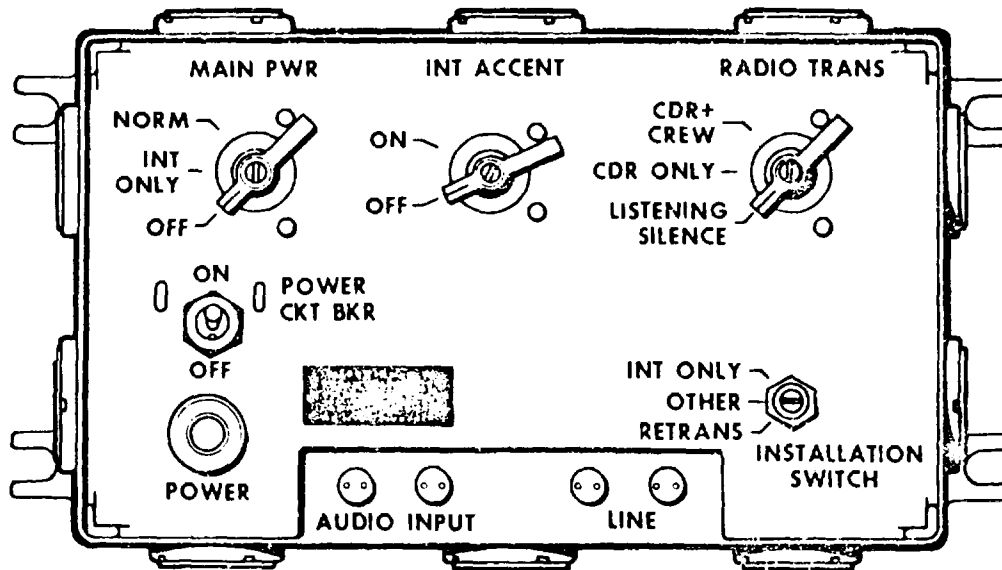

Figure 14-1. AM-1780 Amplifier
(1) Turn turret power on. Turn MAIN PWR on the AM-1780 to NORM. This position makes power available to the radio and the aux receiver connected to the AM-1780. See figure 14-1.
(2) Turn POWER switch on the radio (connected to J501) to either HIGH or LOW. This supplies power to the AM-1780.
(3) Turn POWER CKT BKR switch on the AM-1780 to ON. This supplies power to the AM-1780 and to all control boxes connected to the AM-1780.
(4) Turn INSTALLATION SWITCH on the AM-1780 to OTHER position. This is the normal position which allows the radio accessories connected to the control boxes to operate both the radio and the intercom equipment.
(5) Use the RADIO TRANS switch on the AM-1780 to select crew members allowed to transmit with the radio.
(1) Turn turret power on. Turn MAIN PWR switch on the AM-1780 to INT ONLY. Power is now available for only intercom equipment. See figure 14-1.
(2) Turn POWER CKT BKR switch on the AM-1780 to ON. This supplies power to AM-1780 and all control boxes connected to the AM-1780.